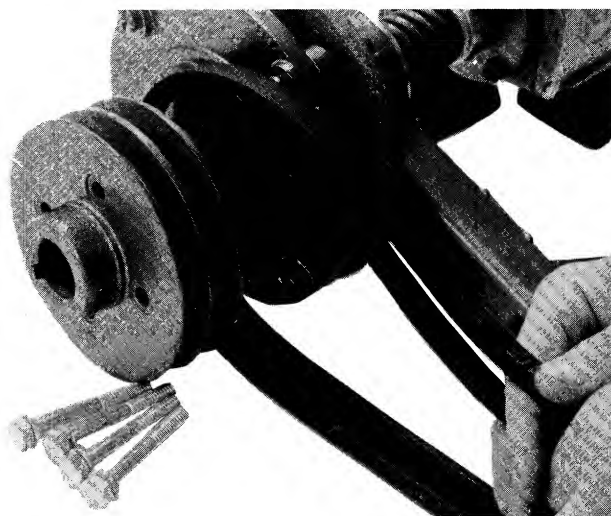

FIGURE 17. SPLITTING THE PULLEY
3. Slide the front half of the pulley forward and the back half of the pulley backwards and drop the belts between the two halves. See Figure 17.